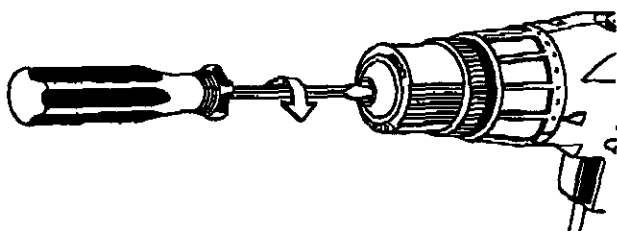

Fig. 14
- Open chuck jaws and remove wrench. Remove the chuck screw by turning it in a clockwise direction. See Figure 14.